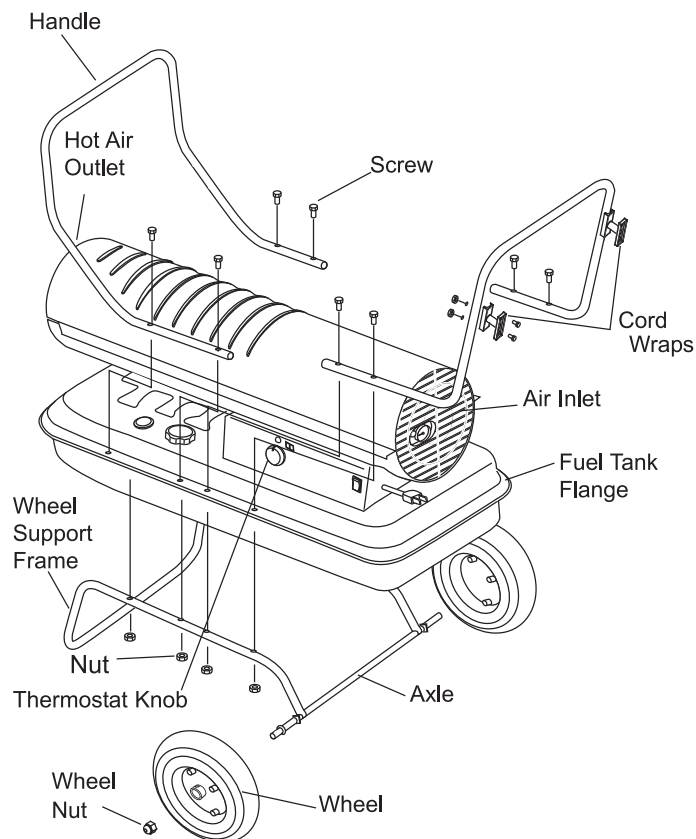

Figure 7. Assembly of Models HS-125T/175T/215T-KFA
1. Slide axle through holes in wheel support frame. Slide wheel bushings and flat washer (A) on to each end of axle.
2. Slide wheels on to each axle, being sure that the valve stem (if pneumatic) is to the outside (**see Figure 7**).
5. Take the front handle and align the mounting holes with the corresponding holes in the tank flange/wheel frame. Slide a screw (A) through the holes and loosely attach a nut. Repeat for the other 3 holes, then fully tighten all 4 screws and nuts.
1. Align holes in cordwrap with corresponding holes in rear handle. Insert screws (B) through holes, attach nuts and tighten (**see Figure 7**).